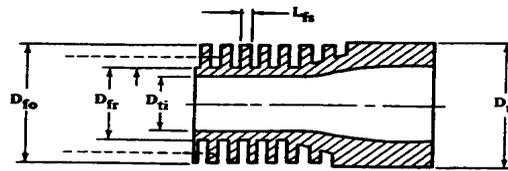
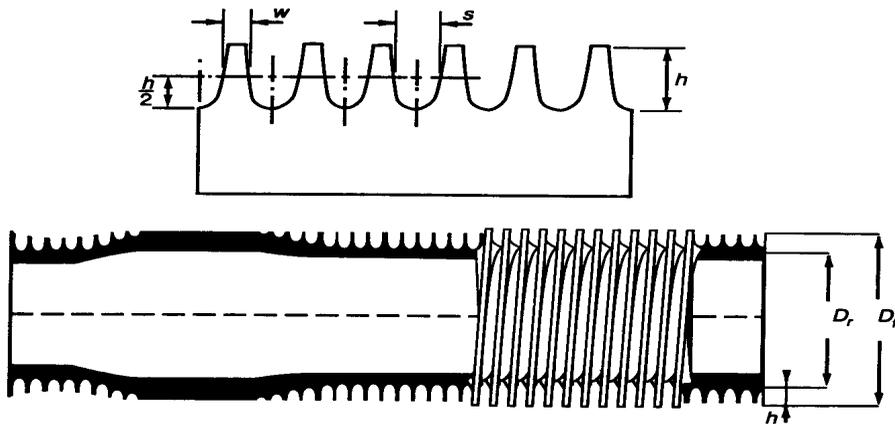

Figure 1 Geometric characteristics for external low fin tubes.
Fig. 2 Low-fin tube characteristic finning notation.
**Fin Root Diameter:** This is the diameter of the tube from the bottom of the fins. In Figure 1 below, the fin root diameter is requested by  $D_{fr}$ .
**Internal diameter:** Low finned tubes have one internal diameter at their entrance and another internal diameter along that portion of the tabs which is finned. Referring to Figure 1,  $D_{ti}$  represents the internal diameter of the fin tube. This is the portion of the tube which is finned.
**Fin height:** Enter the height of the fin from its base. Referring to Figure 1.
**Fin thickness:** Enter the average width of the fin. This would be  $L_{ss}$  in Figure 1 and  $w$  as shown in Figure 2.